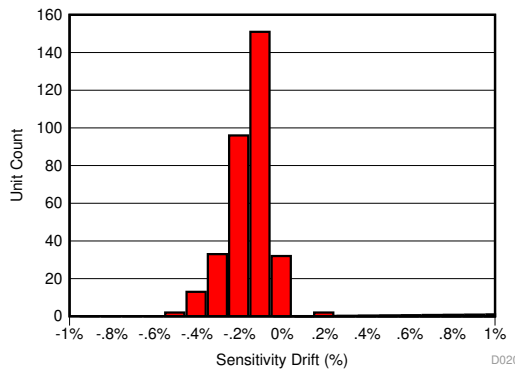
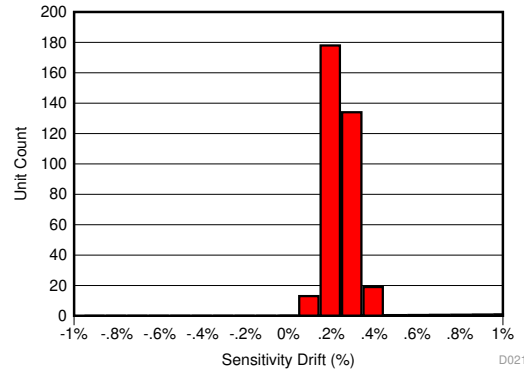
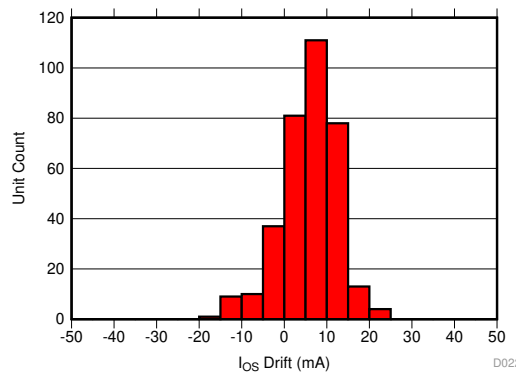

Figure 36. Sensitivity Error after 135°C, 85% RH HAST
Figure 37. Sensitivity Error Drift after AEC-Q100 High Temperature Operating Life Stress Test
Figure 38. Input-Referred Offset Drift after AEC-Q100 High Temperature Operating Life Stress Test
The same compensation techniques utilized in the TMCS1101 to reduce temperature drift also greatly reduce lifetime drift due to aging, stress, and environmental conditions. Typical magnetic sensors suffer from up to 2% to 3% of sensitivity drift due to aging at high operating temperatures. The TMCS1101 has greatly improved lifetime drift, as defined in the Electrical Characteristics for total sensitivity error measured after the worst case stress test during a three lot AEC-Q100 qualification. All other stress tests prescribed by an AEC-Q100 qualification caused lower than the specified sensitivity error, and were within the bounds specified within the Electrical Characteristics table. Figure 36 shows the total sensitivity error after the worst case stress test, a Highly Accelerated Stress Test (HAST) at 130°C and 85% relative humidity (RH), while Figure 37 and Figure 38 show the sensitivity and offset error drift after a 1000 hour, 125°C high temperature operating life stress test as specified by AEC-Q100. This test mimics typical device lifetime operation, and shows the likely device performance variation due to aging is vastly improved compared to typical magnetic sensors.